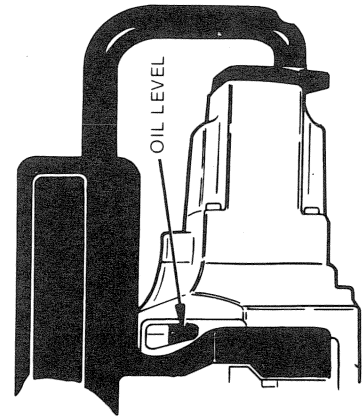

FIG. 23
2. The level of the oil in the tank can be checked in the slot provided (FIG. 23). When the oil is level with the bottom of the slot the oil tank should be refilled.